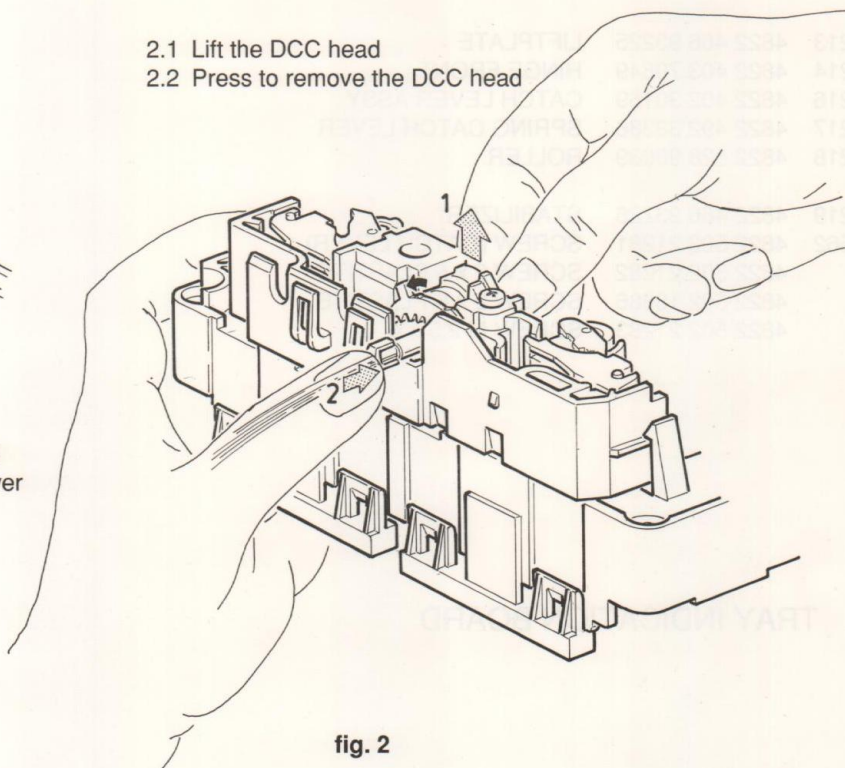

fig. 2
- 1.3 Turn DCC head to bring tooth segment lever (pos.65) in correct position. See fig. 2